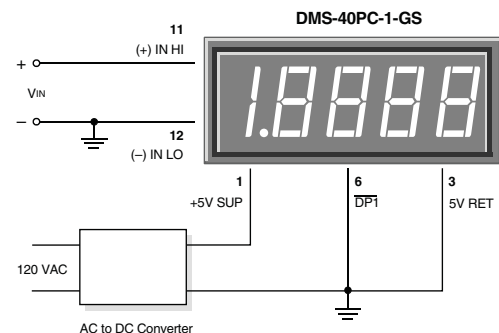

Figure 2. Single-Ended Input Configuration
1. Single-Ended Input Configurations: The DMS-40PC can measure single-ended signals with either positive or negative polarities. True single-ended inputs always have one of their two terminals at the same potential as the DMS-40PC's 5V RETURN (pin 3). Single-ended inputs are usually derived from power supplies that have a common ground with the meter's +5V supply. Figure 2 shows the recommended connections to be used with this type of input. Pin 12, (-) INPUT LO, is shown directly tied to ground. This connection to ground must be a separate wire or pc-board trace originating at V_M 's negative terminal. This hook-up will normally eliminate display instabilities and errors caused by ground-loop currents which can occur if (-) INPUT LO is tied to ground at, or near, pin 3.